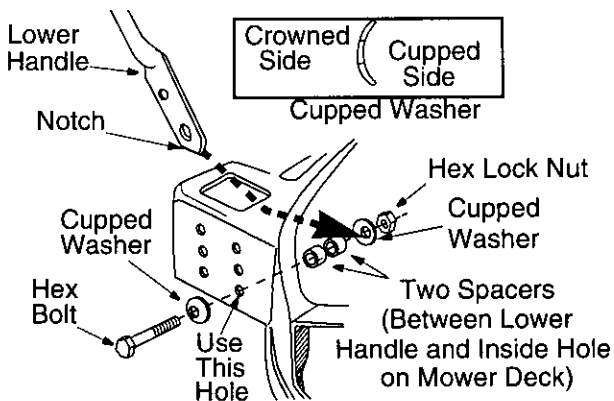

Figure 2
- Place **two** spacers between the bottom hole in lower handle and **bottom inside hole** of the deck. See Figure 2. Use a screwdriver to pry the handle away from the deck if necessary.